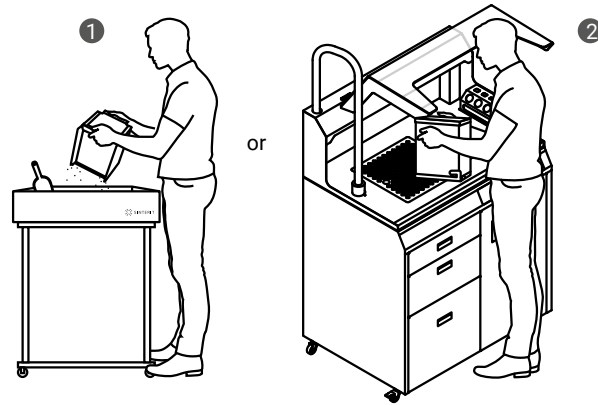

Fig. 3.4 Moving the IO BOX to the foldable tray ① or to the PHS worktop ② to clean the printout.
10. Carry the IO BOX and its contents onto the foldable tray ① or to the PHS worktop ② (fig. 3.4).